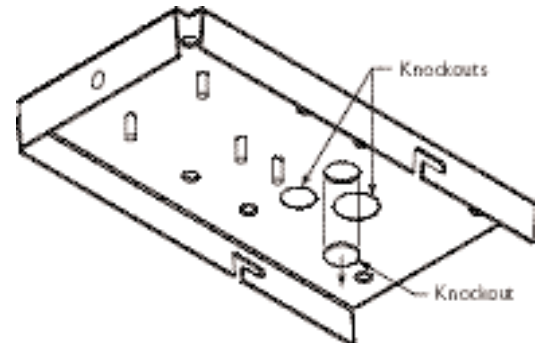

Figure 6 Knockouts
2. Mark the wall for bolt anchor holes. At least six (6) 8-mm ( $\frac{5}{16}$ -in) bolts will be needed.
4. Decide how wiring will be routed into the housing. If needed, remove the appropriate knockout. Two PG 13.5 ( $\frac{1}{2}$ -inch) and one PG 21 ( $\frac{3}{8}$ -inch) are provided. See **Figure 6**.